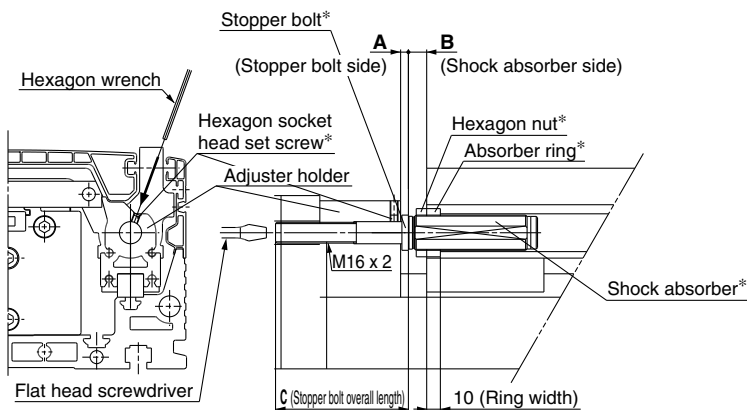

Fig. 1 Stroke adjusting section detail
1. As shown in Fig. 1, to adjust the stopper bolt within the adjustment range A, insert a hexagon wrench from the top to loosen the hexagon socket head set screw by approximately one turn, and then adjust the stopper bolt with a flat head screwdriver.
- The stroke adjustment unit is composed of the components with a \* mark in Fig. 1.